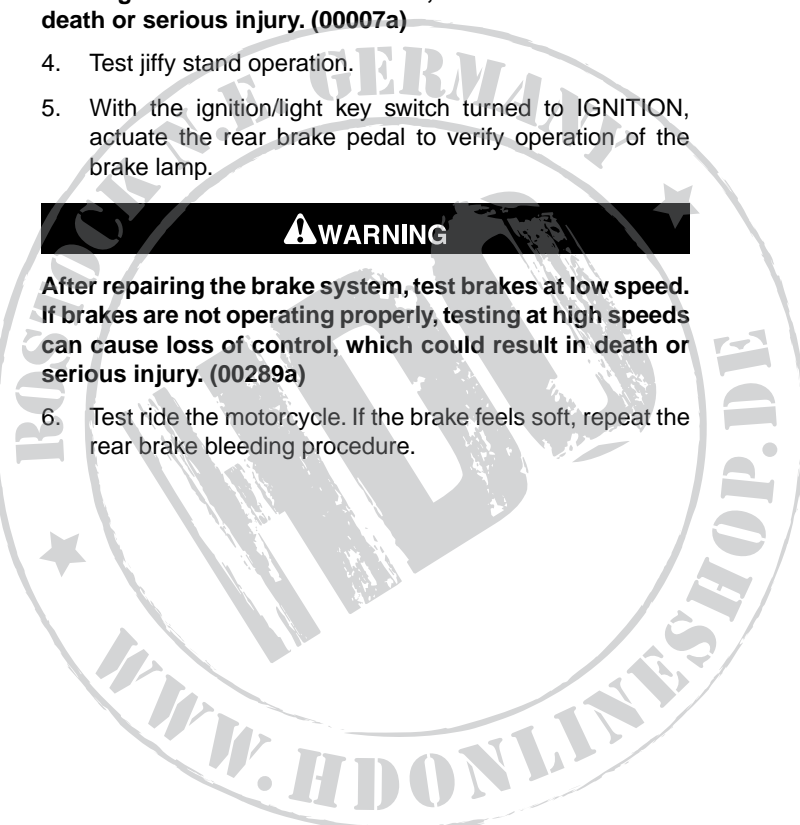

Figure 3. Cable Strap Location
- 4. See Figure 3. Install the cable straps at locations (1).